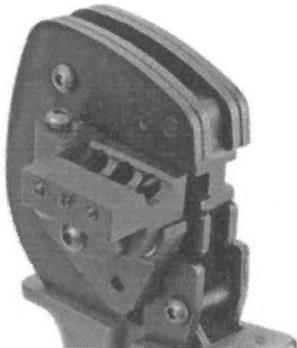

Figure 3
- ◇ 使用专用压接工具（如 JKT-02）压接时，先将已剥好的线缆线芯放入端子槽内，并确保所有芯线都在端子槽内，然后将要压接的端子放入压线钳钳口，并对应正确的定位器孔位压接（见图 3 至图 7），压接完成后检查压接是否牢固（如图 8），压接后电缆拉力要求需满足表-1 要求。
When crimping with specified Crimping tools (e.g. JKT-02), Insert striped cable into contact barrel and insure all conductor strands are captured in the contact barrel. Crimp contact barrel by using the corresponding crimping die, See below pictures from Fig.3 to Fig.7. Check whether the crimping is firm after the crimping is completed (Fig. 8). The pull-out force has to meet below table-1.
- ◇ 打开压接工具并按住夹子，把插针/插套放在合适的界面区域，转动插针/插套使开口朝上，松开夹子，插针/插套即被固定（如图 3&4）。
Open the crimping tool and press the clip. Insert the male/female terminal into appropriate groove until fully seated. To make the opening of the male/female terminal face up (Fig. 3 & 4).